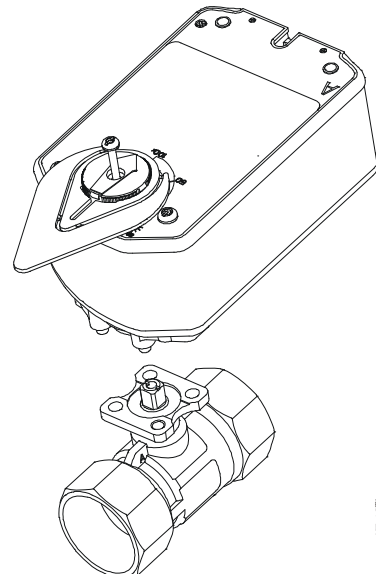

Figure 9: Mount the Actuator
7. Install the actuator on the ball valve (Figure 9). Tighten the actuator mounting screw to a torque of 10 to 12 lb-in. (1.1 to 1.4 N-m) and snap the large adjustable pointer into place.